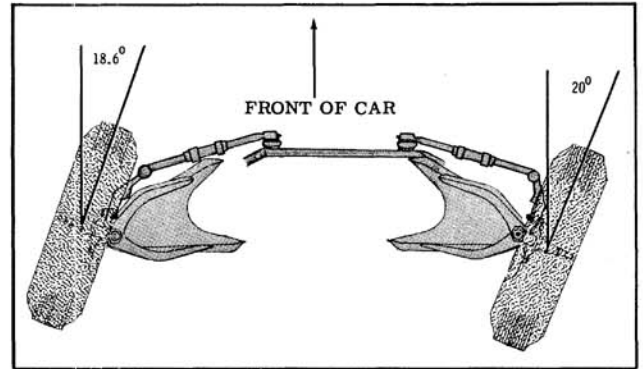

Fig. 9-139 Front Wheel Toe-Out
4. TOE-OUT (STEERING GEOMETRY) (Fig. 9-139)
**TOE-OUT (STEERING GEOMETRY) Fig. 9-139)**